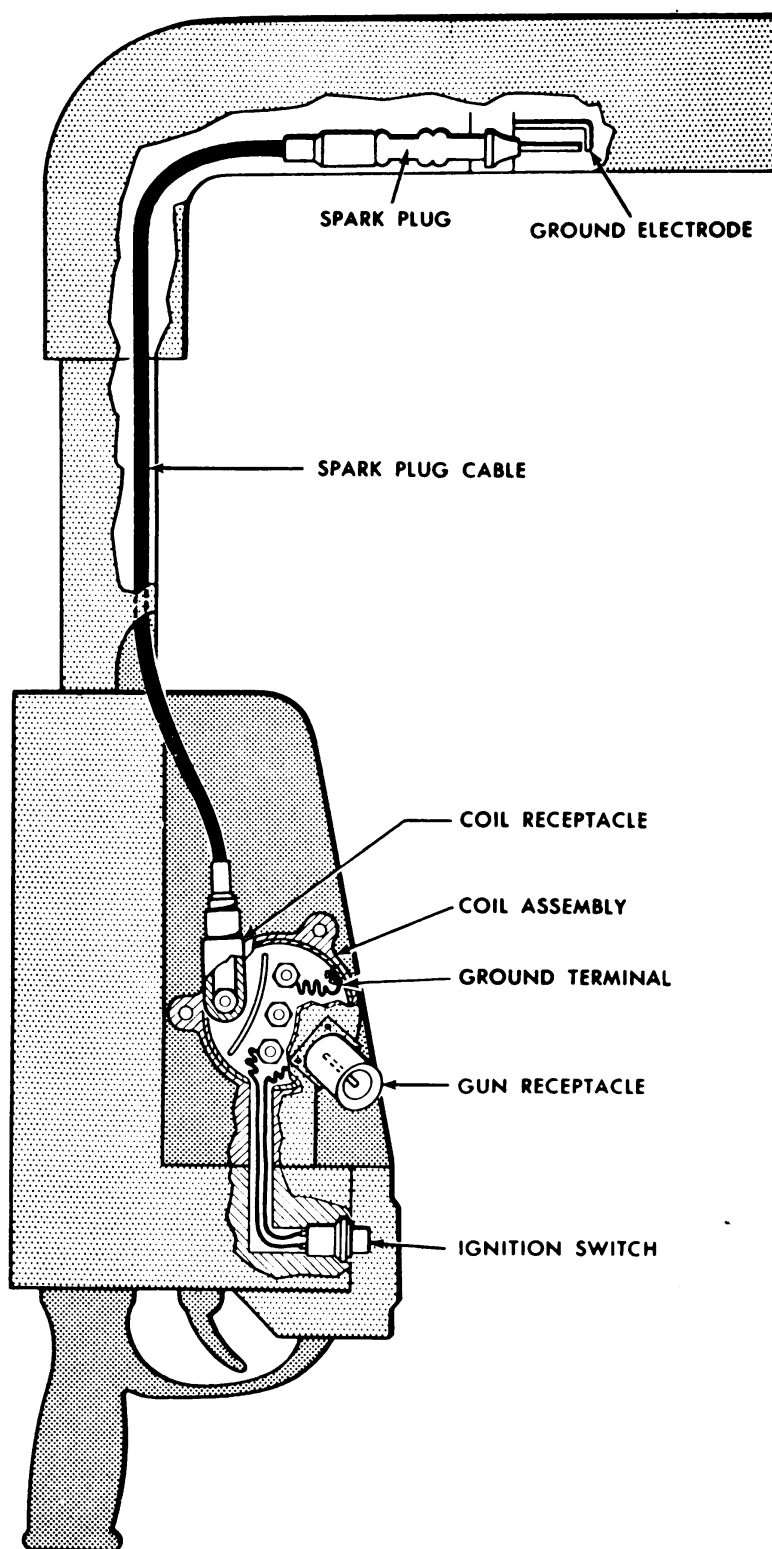
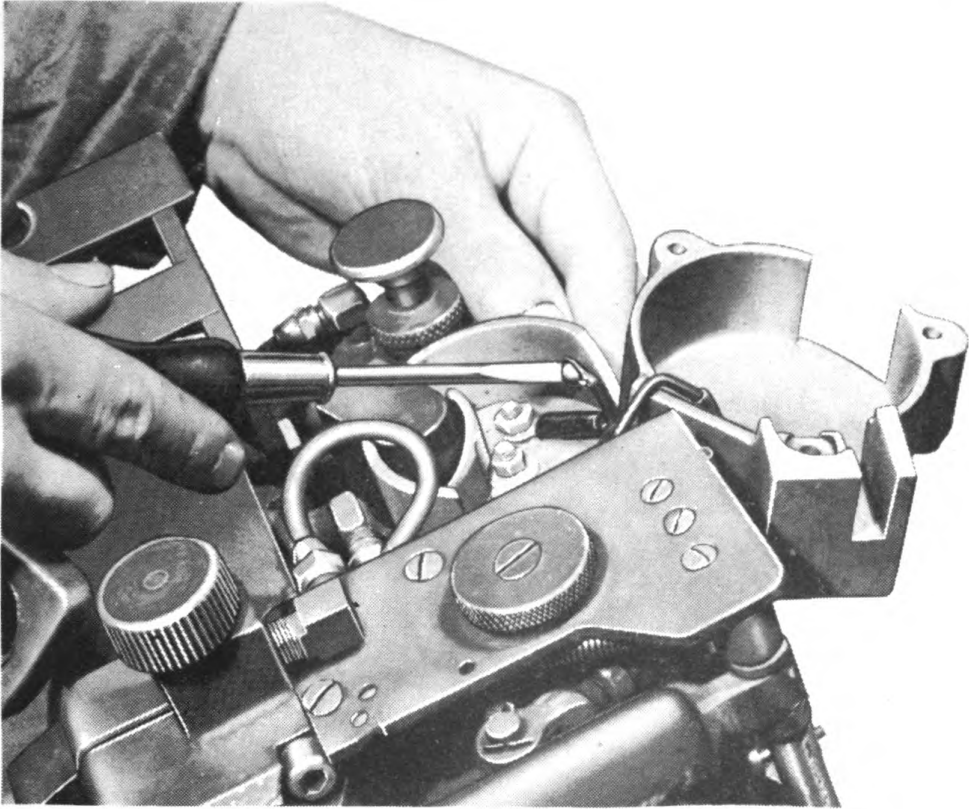

Fig. 81. Flame gun electrical system showing relation of coil assembly to other parts of system.
Fig. 82. Disconnecting ground wire from coil cap supports.
a. General. This coil converts the 12-volt battery current into high voltage current (approximately 10,000 volts) required for proper spark plug operation (fig. 81). The coil is retained in the coil tube by a cap which is secured by screws.
b. Removal. (1) Disconnect coil end terminal of spark plug cable from coil terminal.
(2) Unscrew the three nuts from studs securing coil cap to coil tube.
(3) Lift off cap.
(4) Disconnect ground wire from coil cap support (fig. 82) and disconnect lead from distributor plate to pole on coil.